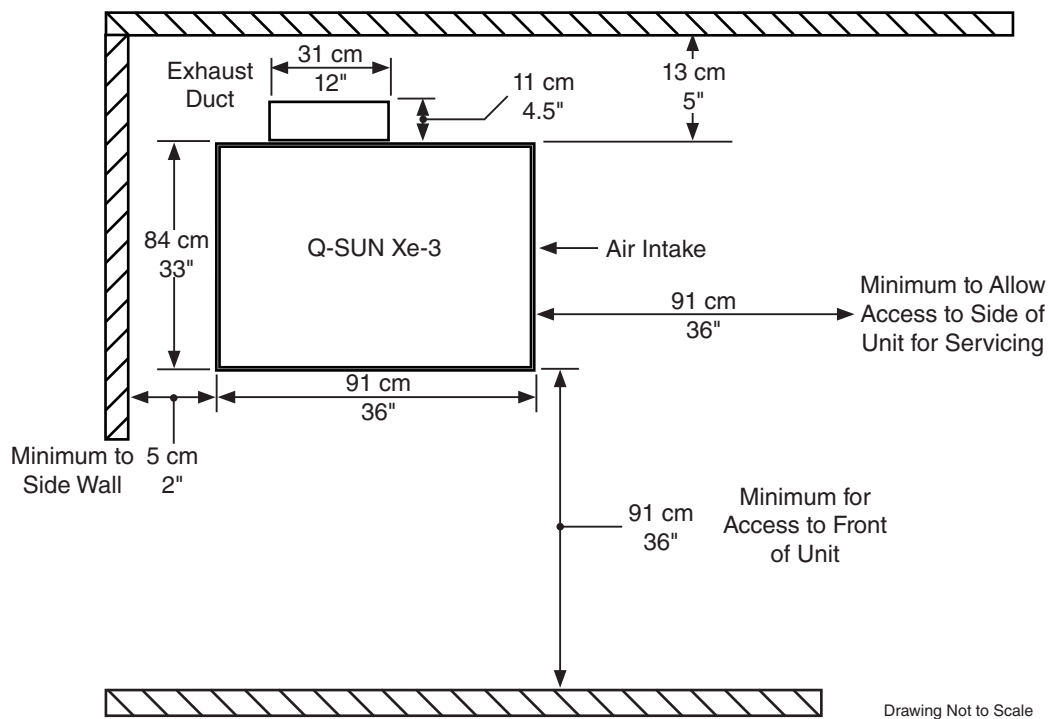

Figure 5.7a: Xe-3 placement without chiller.
- The Xe-3 should be positioned as shown in Figure 5.7a below.